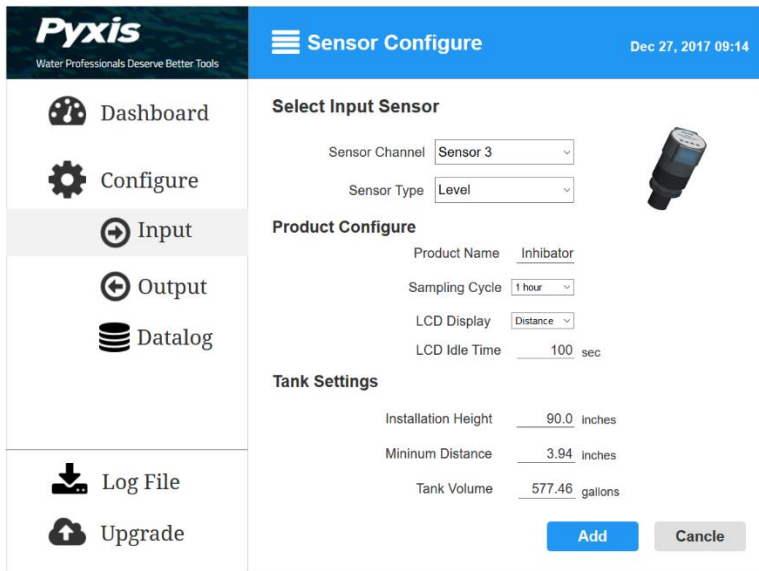

Figure 24. Configure Level Sensor Parameters by UC-300
The Pyxis UC-300 can provide 24 VDC power to four LS-202 sensors. The panel connects to the sensor by Modbus and reads the sensor data every 4 seconds. The trends of the tank levels from the four connected sensors can be displayed and recorded (figure 24). The UC-300 panel passes the four (4) 4-20mA current signals to other controllers if desired. An alarm on the level for each sensor can be configured. The panel turns on a relay output if an alarm condition is met. Please reference the UC-300 manual for further information.